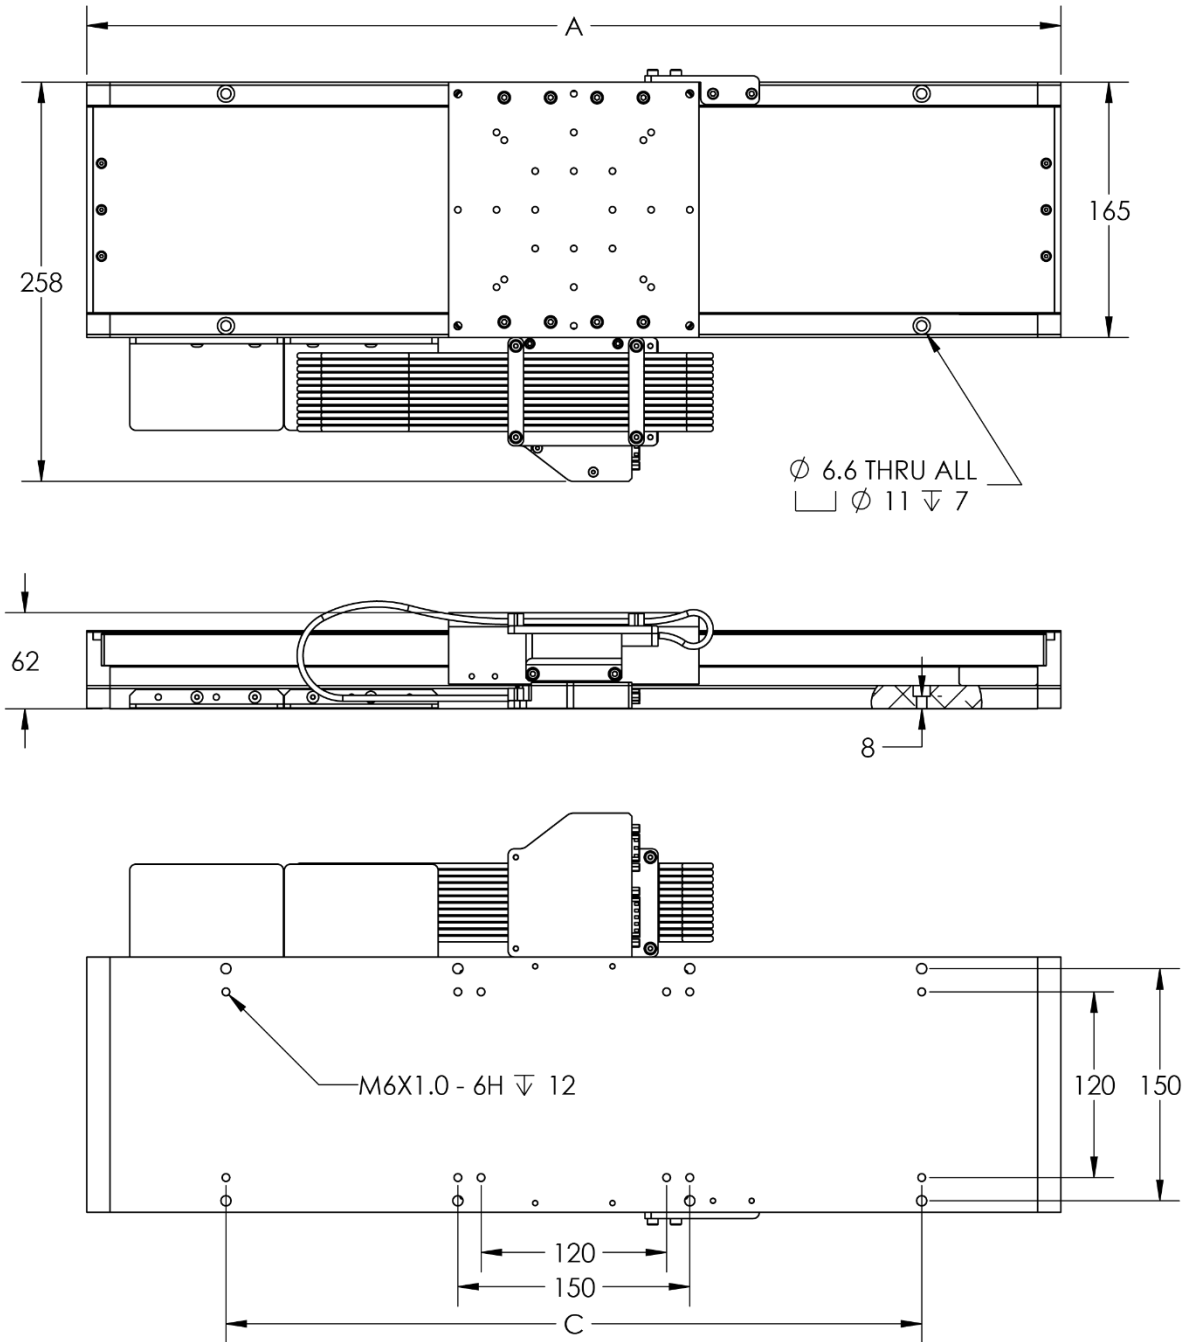

**Figure 5. LM3-BS Motor Heat Location**
**CAUTION:** If motor current is not monitored properly, the housing (as circled out in Figure 5.) may reach temperatures that could burn an operator during operation or service. Labels are not provided on the product for this specific hazard.